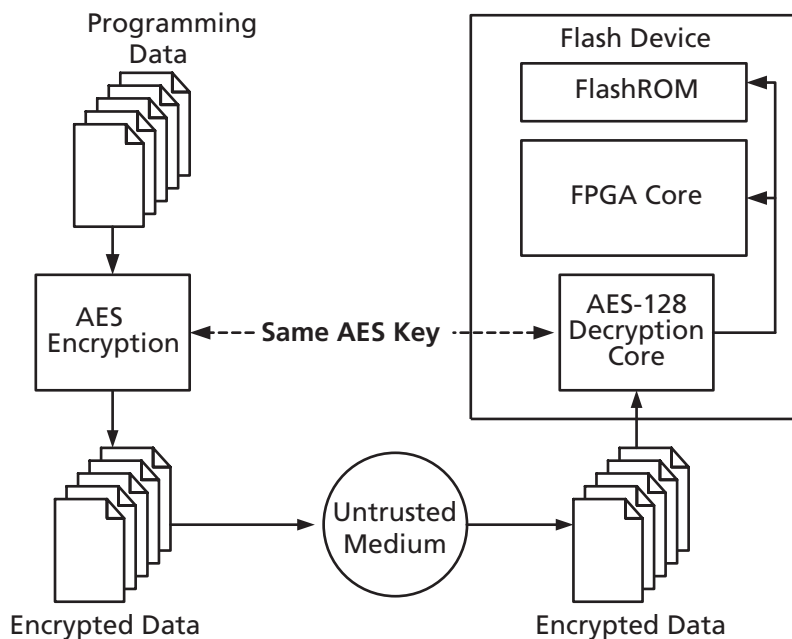

Figure 5-5 • Programming FlashROM Using AES
Low-power flash devices with AES-based security allow for secure remote field updates over public networks such as the Internet, and ensure that valuable intellectual property (IP) remains out of the hands of IP thieves. Figure 5-5 shows this flow diagram.